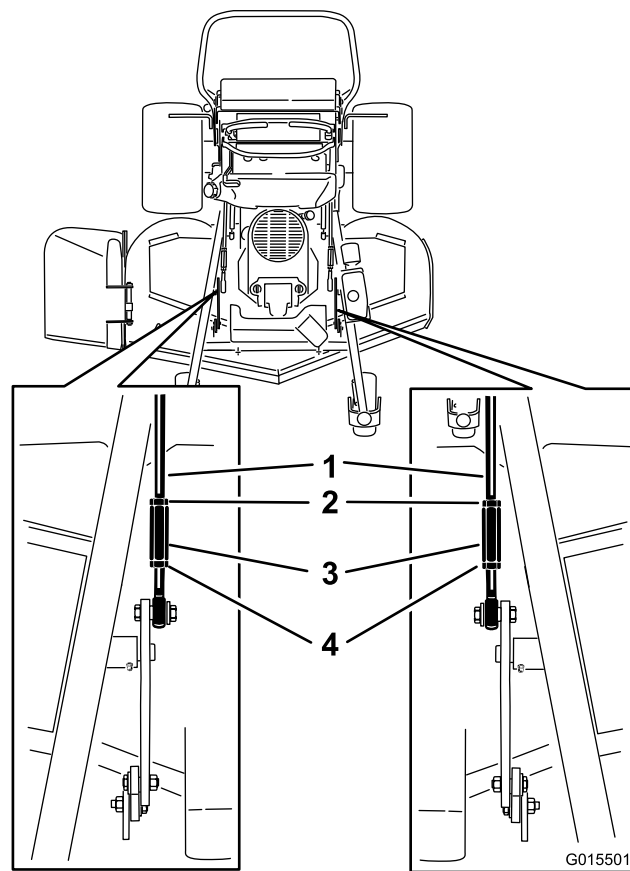

Figure 95
3. For 60 inch mower decks, loosen both the front and rear nuts and lift links on the adjustment rods (Figure 95).
5. For 60 inch mower decks, tighten the lift links (Figure 95).